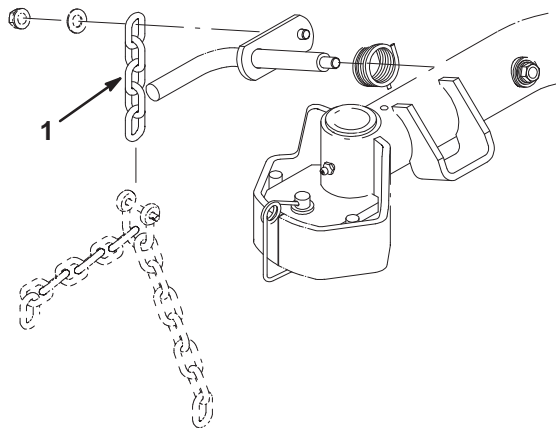

**Figure 15**
34. Lubricate grease fittings on roller brush bearing housings and remainder of cutting unit with No. 2 General Purpose Lithium Base Grease (Fig. 15).